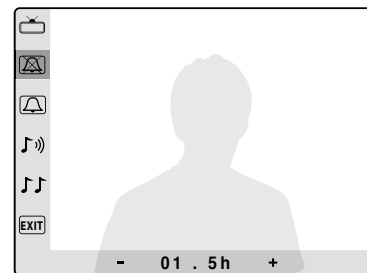
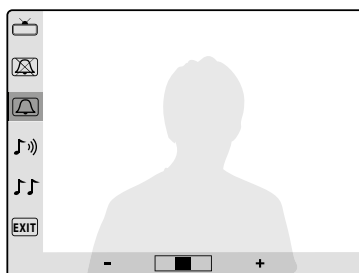
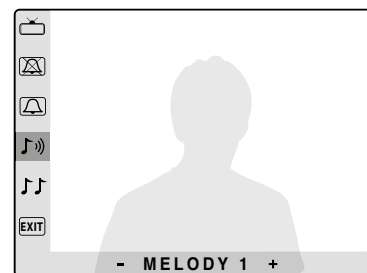
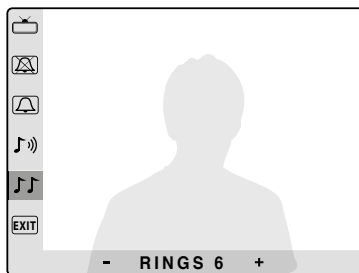

Fig. 4
Fig. 5
Fig. 6
Fig. 7
4. As shown in **Fig. 4**, connect the wires to the removable terminals following the provided installation diagram. Connect the terminal blocks to the electronics contained in the cover as shown in **Fig. 5**. Test system before closing.
5. Once testing is complete and all the necessary adjustments are made, close the unit as shown in **Fig. 6**: first hook in the right part and then the left part until you hear a click.
The second programming option is the **privacy duration (Fig. 4)** (from 0 to 20 hours):
Proceed in the same way for the other programming options: **call tone volume** (3 level, **Fig. 5**), **melody** (9 options, **Fig. 6**) and **number of rings** (for 1 to 9, **Fig. 7**).